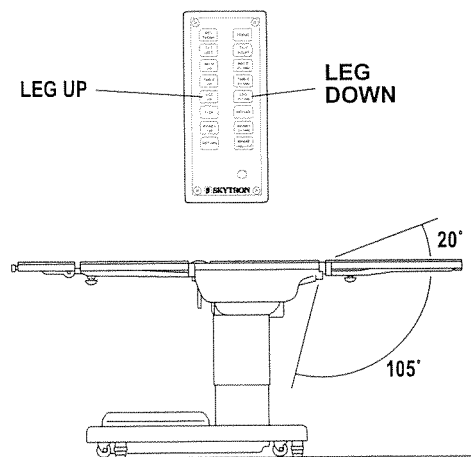

Figure 3-9. Leg Section Positioning
g. Leg Section. To lower the leg section, press the LEG DOWN button (figure 3-9). The leg section will go down to 105° below horizontal. To raise the leg section, press the LEG UP button. The leg section will go up to 20° above horizontal.